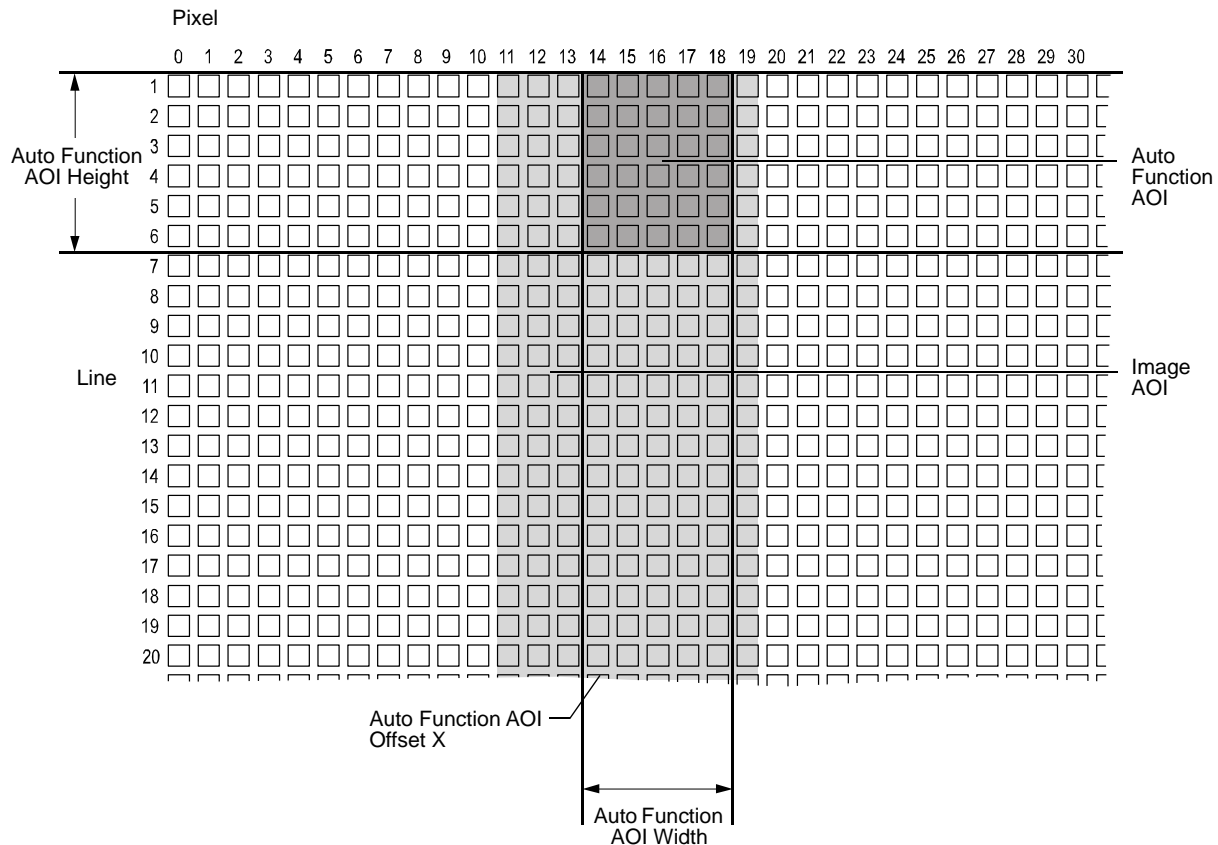

Fig. 56: Example Auto Function Area of Interest
**Example:** You set the AutoFunctionAOIOffsetX parameter to 14, the AutoFunctionAOIWidth parameter to 5, and the AutoFunctionAOIHeight parameter to 6. The resulting Auto Function AOI is shown in Fig. 56.